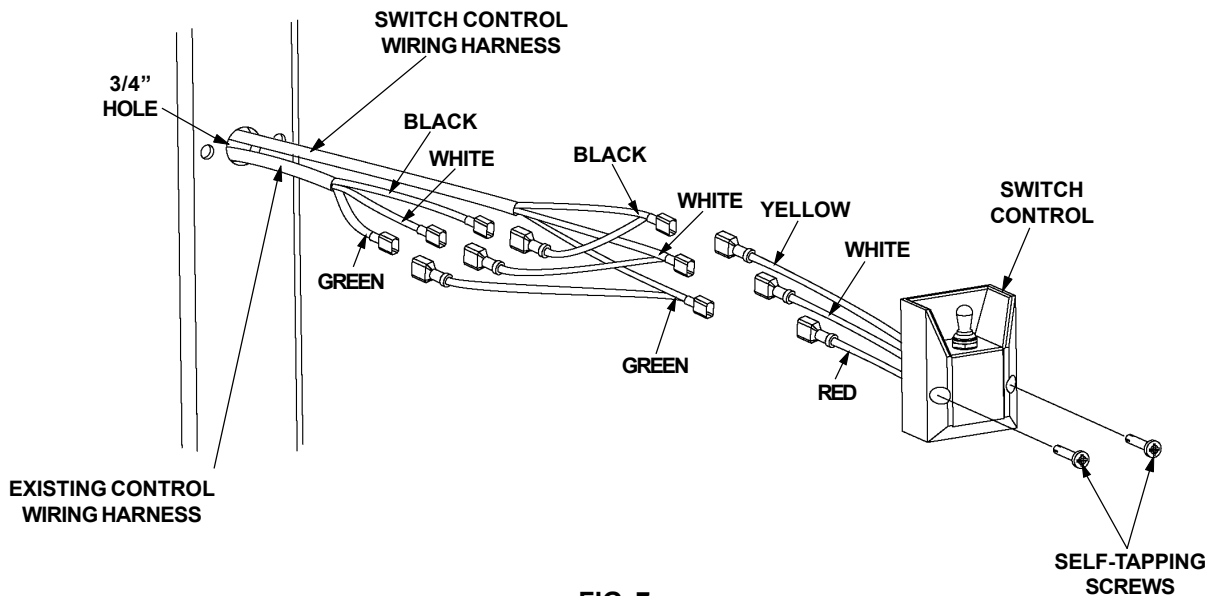

FIG. 7
6. Route Switch Control Wiring Harness, from Installation Kit, up through the inside of the vertical post and out 3/4" hole as shown in **FIG. 7**. Connect Switch Control Wiring Harness to existing wiring harness and Switch Control (**FIG. 7**). Push extended wiring back into the 3/4" hole in vertical post until Switch Control touches the post. Attach Switch Control to vertical post with 2 self-tapping screws.